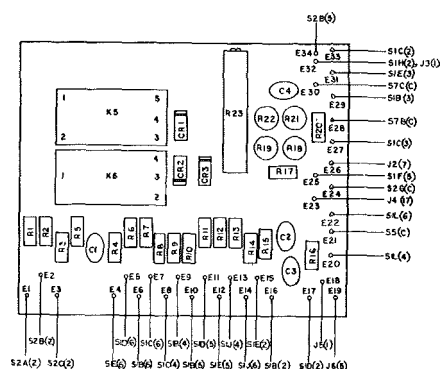

Figure 5-4. Switch Components Assembly (A5) Adjustment
- b. Adjust potentiometer R23 for a voltmeter indication of  $0V \pm 10\mu V$ . See Figure 5-4. for the location of this adjustment.